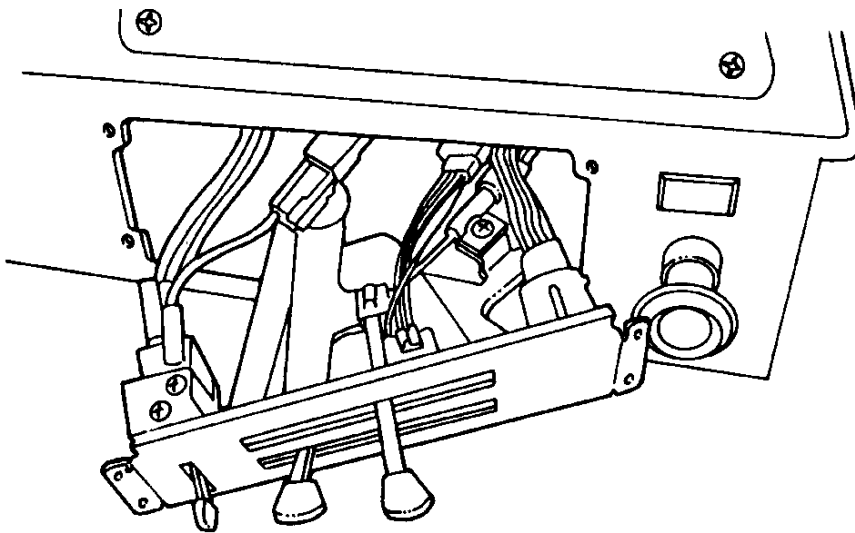

Figure 55 Cab Control Assembly Remove/Install
2. Carefully slide cab control assembly out of dash (Figure 55).
3. Slide control assembly into position in dash (Figure 55).
6. Carefully slide control assembly out of dash (Figure 55).
2. Carefully slide control assembly out of dash (Figure 55).